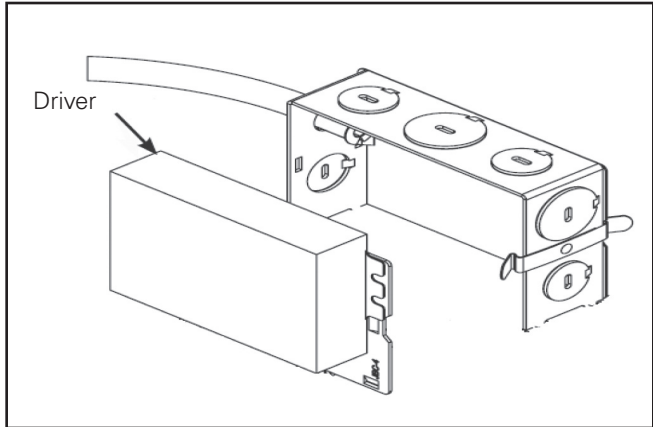

Figure 10
2. Remove the driver and junction box cover assembly. (Figure 10).